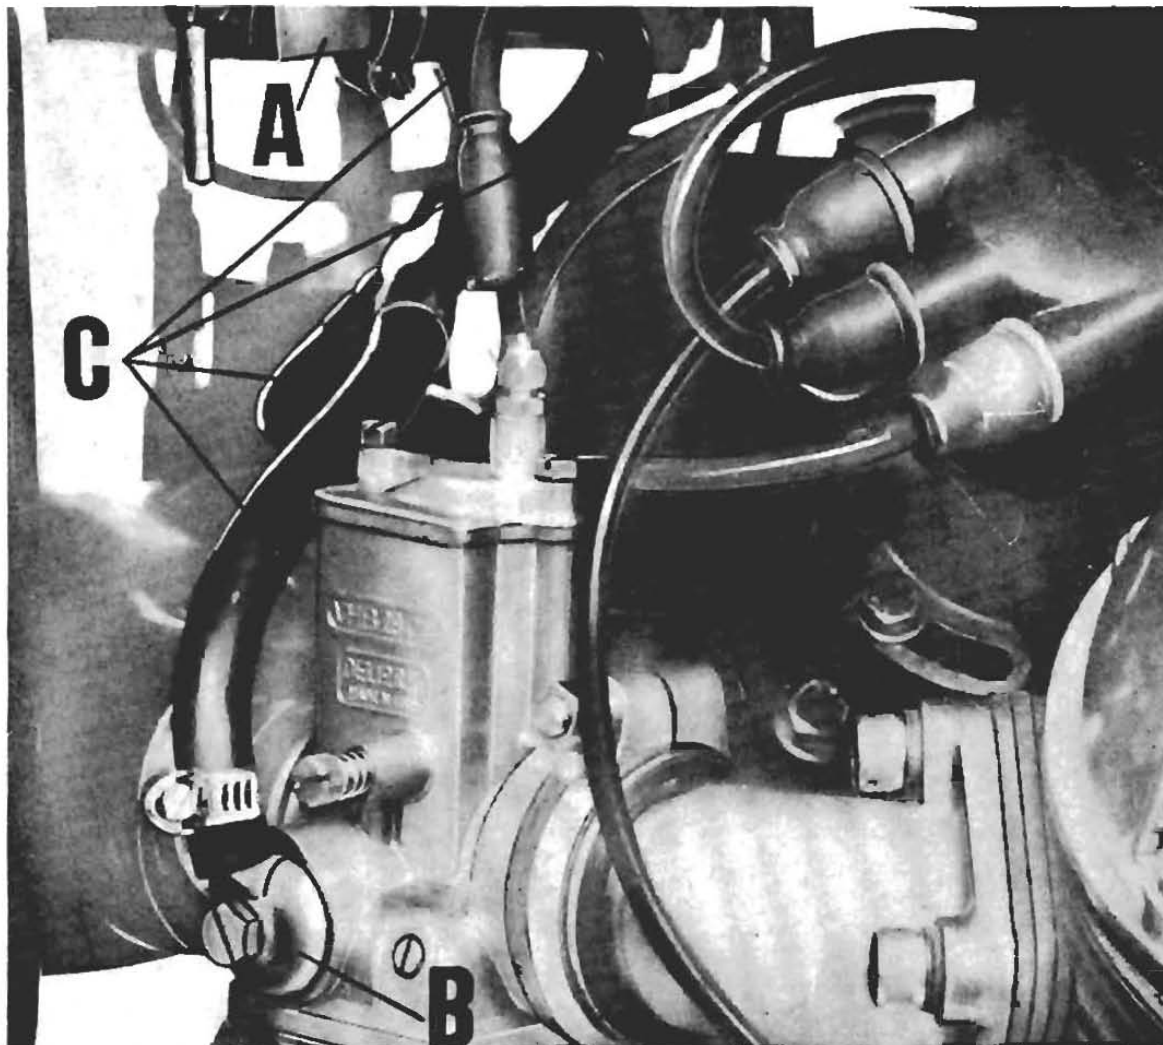

Fig. 20
Filter and fuel lines (See fig. 20)
Every 10.000 kms. or so (6000 miles) or any time fuel flow to the carburetors is not regular, it is necessary to check if there are no leakages at the fuel line connections (See C fig. 20) or if the filter on the taps (A) and the carburetors (B) are clean.